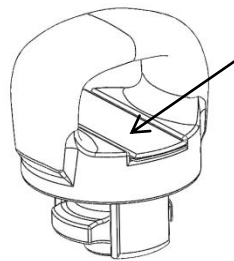

Figure 4 - Locked
3. To install the Safety Chain Lock Assemblies, place the Safety Chain Lock Assembly on top of the q-turn pucks (see Figure 6 below). Rotate the Safety Chain Lock Assembly 90 degrees until the center lock drops into place (see Figure 4). To remove the Safety Chain Lock Assembly lift the center lock and rotate the complete assembly 90 degrees (see Figure 5).
4. When not using the Pop-In™ Gooseneck ball place it in the supplied bag (4) and put the gooseneck cover (3) in its place.